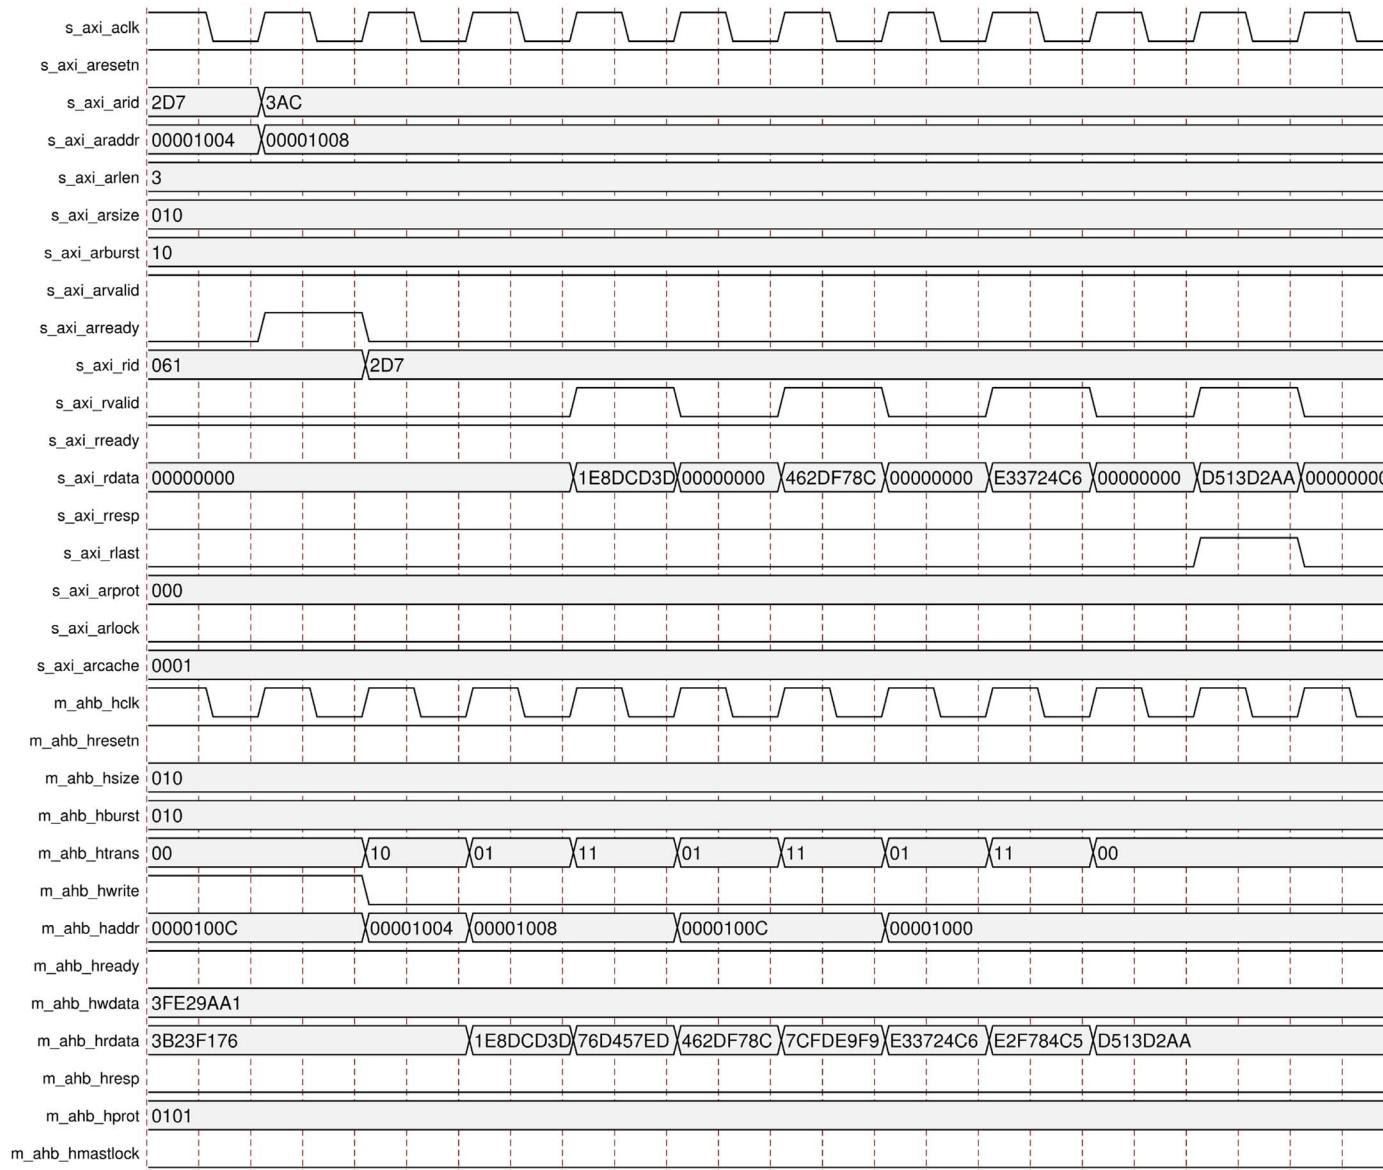

Figure 3-8: AXI4 Wrapping Burst Read Transfer of Length 4
8. AXI4 wrapping burst read transfer of length 4 is shown in Figure 3-8.